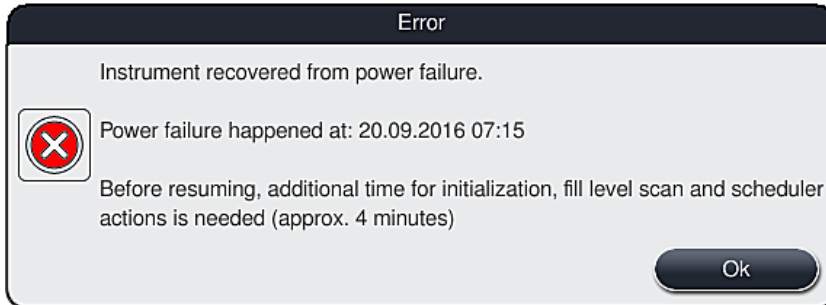

Fig. 105
- ① The first message after the device restarts automatically notifies the operator of the power failure time (→ "Fig. 105"). Confirm this message by pressing the "OK" button to start the additional instructions for continuing the staining process.